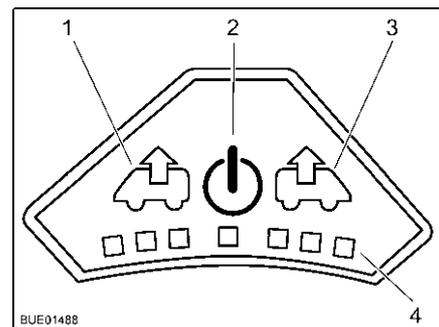

Fig. 63 Control panel for fan
- Press the On/Off button (Fig. 63,2). The fan runs in comfort mode (venting at slowest fan speed).
- To increase the fan speed: Press the Vent button (Fig. 63,1). The fan speed in the venting direction increases by one level. LEDs (Fig. 63,4) show the operating levels.
- To lower the fan speed: Press the Aerate button (Fig. 63,3). The fan speed decreases by one level.
- To increase the fan speed: Press the Aerate button (Fig. 63,3). The fan speed in the aerating direction increases by one step. LEDs (Fig. 63,4) show the operating levels.
- To lower the fan speed: Press the Vent button (Fig. 63,1). The fan speed decreases by one level.
- Press the On/Off button (Fig. 63,2). The fan stops, the LEDs go out.